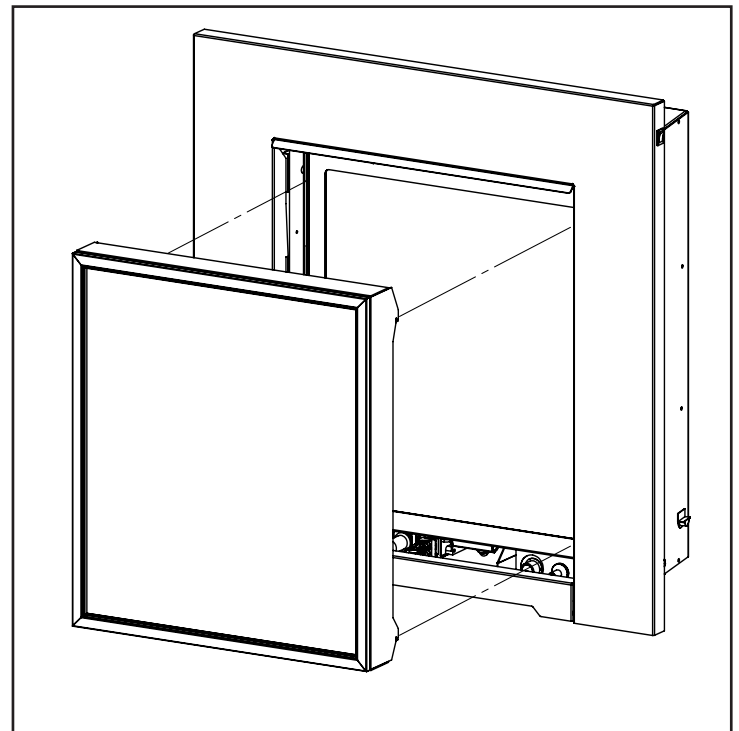

**Figure 67: Installing Safety Screen Mounts.**
1. Attach the left, right, top/bottom brackets onto the safety screen using a T20 screwdriver and the supplied sixteen (16) #8 T20 screws (see Figure 67). Do not over-tighten the screws, doing so could cause them to strip out of the screen frame.